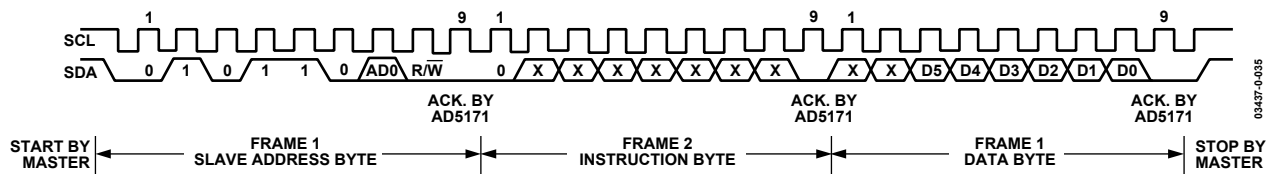
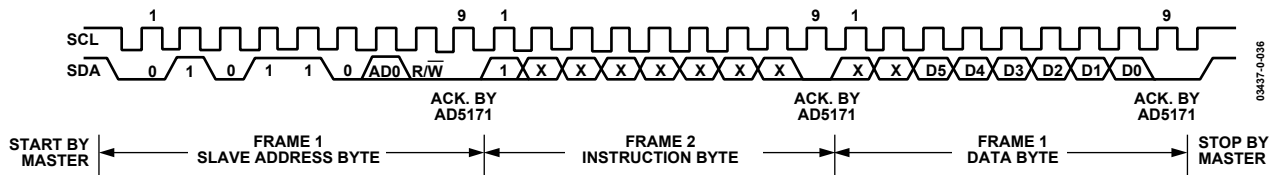
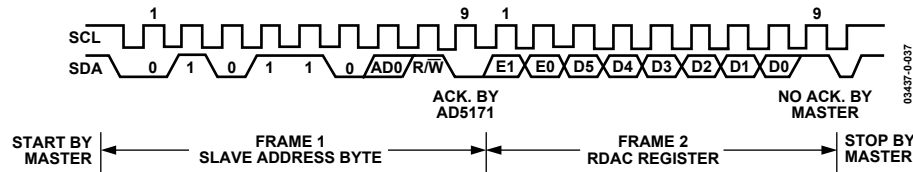

Figure 36. Writing to the RDAC Register
Figure 37. Activating One-Time Programming
Figure 38. Reading Data from RDAC Register
For users who prefer to use external controllers, the AD5171 can be controlled via an I2C compatible serial bus and is connected to this bus as slave device. Referring to Figure 36, Figure 37, and Figure 38, the 2-wire I2C serial bus protocol operates as follows:
1. The master initiates data transfer by establishing a start condition, which is when SDA from high-to-low while SCL is high (Figure 36 and Figure 37). The following byte is the slave address byte, which consists of the 6 MSBs as a slave
2. The write operation contains one more instruction byte than the read operation. The instruction byte in the write mode follows the slave address byte. The MSB of the instruction byte labeled T is the one-time programming bit. After acknowledging the instruction byte, the last byte in the write mode is the data byte. Data is transmitted over the serial bus in sequences of nine clock pulses (eight data bits followed by an Acknowledge bit). The transitions on the SDA line must occur during the low period of SCL and remain stable during the high period of SCL (Figure 36).
3. In the read mode, the data byte follows immediately after the acknowledgment of the slave address byte. Data is transmitted over the serial bus in sequences of nine clock pulses (slight difference with the write mode; there are eight data bits followed by a No Acknowledge bit). Similarly, the transitions on the SDA line must occur during the low period of SCL and remain stable during the high period of SCL (Figure 38).
4. When all data bits have been read or written, a stop condition is established by the master. A stop condition is defined as a low-to-high transition on the SDA line while SCL is high. In the write mode, the master will pull the SDA line high during the 10th clock pulse to establish a stop condition (Figure 36 and Figure 37). In the read mode, the master will issue a No Acknowledge for the 9th clock pulse, i.e., the SDA line remains high. The master will then bring the SDA line low before the 10th clock pulse, which goes high to establish a stop condition (Figure 38).